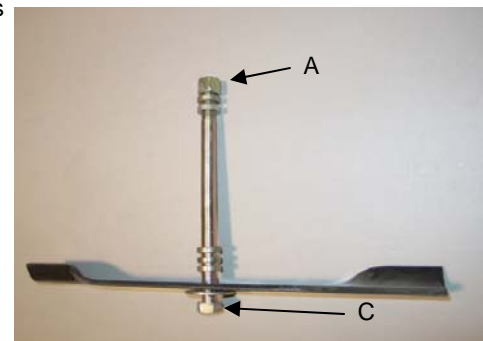

Figure 10
3. Using two 15/16" box end wrenches. Use one wrench to loosen nut "A" while holding bolt "C" with the other wrench. (Figure 10)
6. Install the blade spacers that were removed, back onto the blade bolt followed by the nut and tighten. (Figure 10)